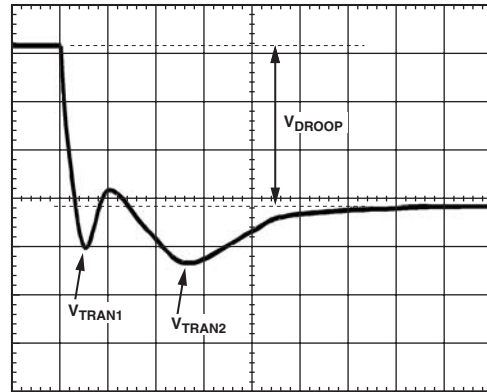
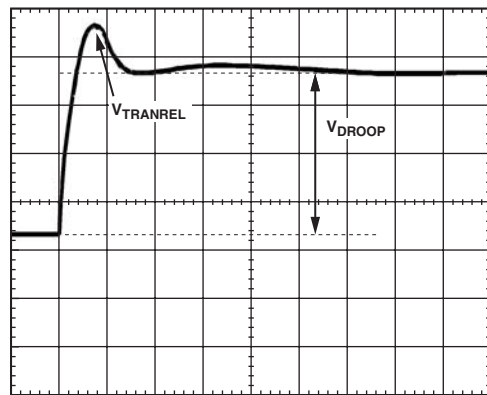

Figure 9. Transient Setting Waveform
Figure 10. Transient Setting Waveform
form that may have two overshoots and one minor undershoot (see Figure 9). Here, V_{DROOP} is the final desired value.
21. For load release (see Figure 10), if $V_{TRANREL}$ is larger than V_{TRAN1} (see Figure 9), you do not have enough output capacitance. You will either need more capacitance or to make the inductor values smaller (if you change inductors, you need to start the design over using the spreadsheet and this tuning procedure).